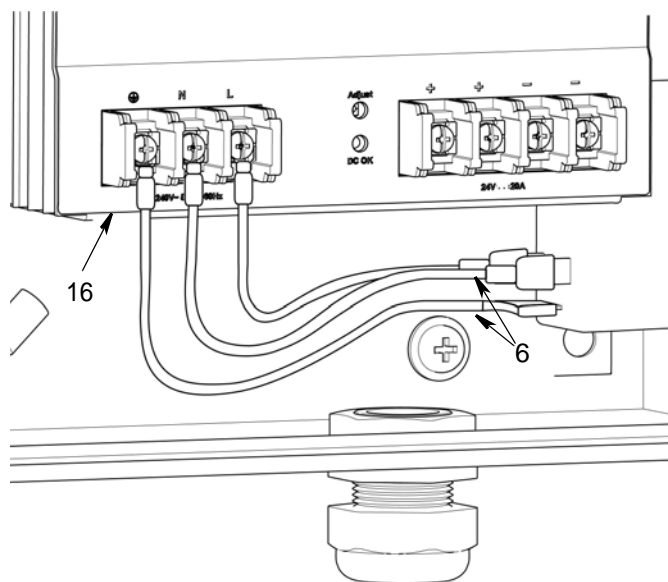

FIG. 13
3. Connect wiring harness (6) (FIG. 13) to AC input terminals on power supply (16).
- Black wire - line (L)
- White wire - neutral (N)